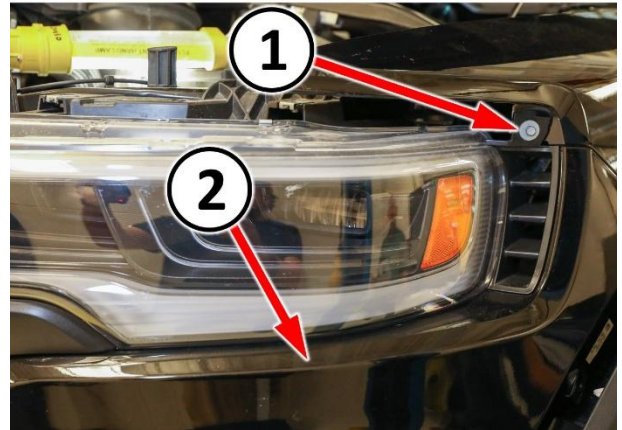

Figure C7 – Fascia Filler Panel
11. If applicable such as RHO model. Remove the screw above the air inlet on the fascia filler panel (Figure C7).
30. If applicable, such as RHO model, install the screw above the air inlet on the fascia filler panel and tighten securely (Figure C7).